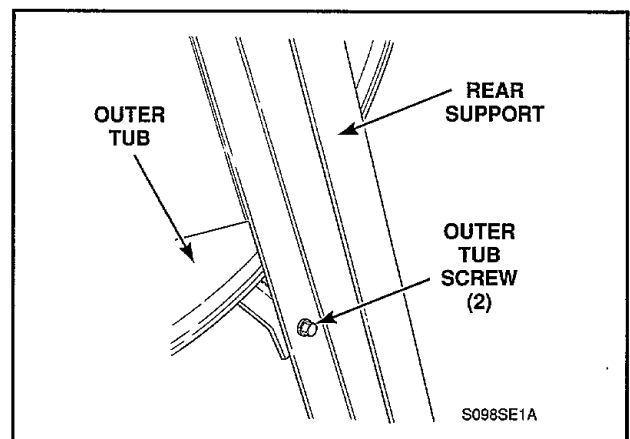

Figure 41
- Remove two screws, nuts, washers and lockwashers holding outer tub to rear support, *Figure 41*.
- l. Remove two screws, nuts, washers and lockwashers holding outer tub to rear support, *Figure 41*.